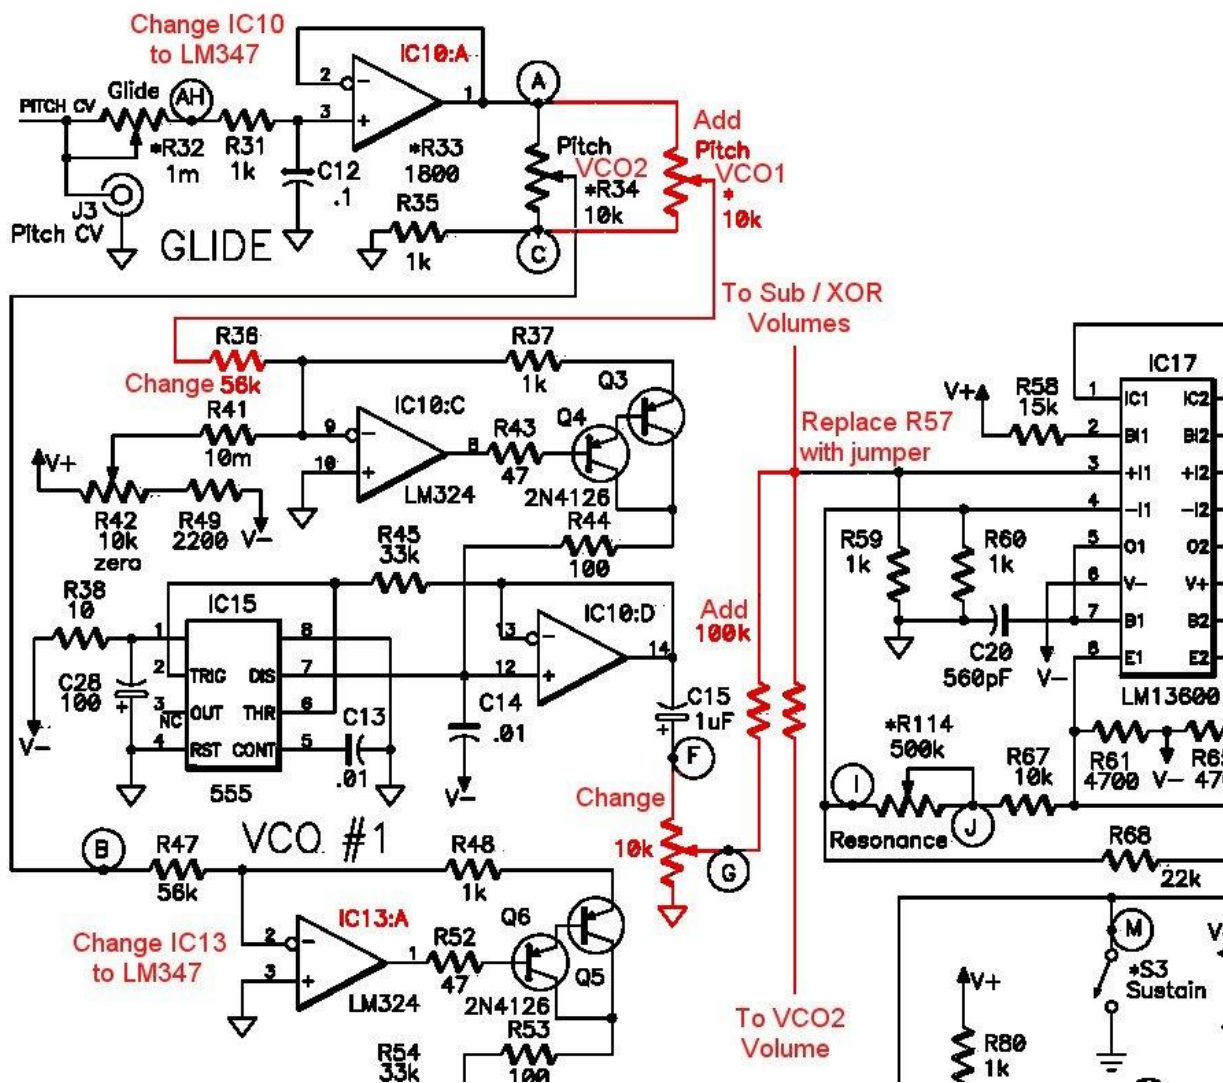

Figure 1.
5. Improved Glide: Replace IC10 and IC13 with LM347 (lower input bias current prevents detuning when operating the glide control). Re-adjust R42 (figure 1).
6. Independent VCO Pitch Controls: Remove R33. Change R36 to 56K. Change R40 to 10K potentiometer and wire in parallel with R34 (figure 1).
7. Independent VCO Volume Controls: Remove R46 and R55. Replace R57 with jumper. Wire R56 in place of R46. Add 10K volume control and wire in place of R55. Wire the wiper of each potentiometer through 100K resistor to point G (figures 1 & 4).